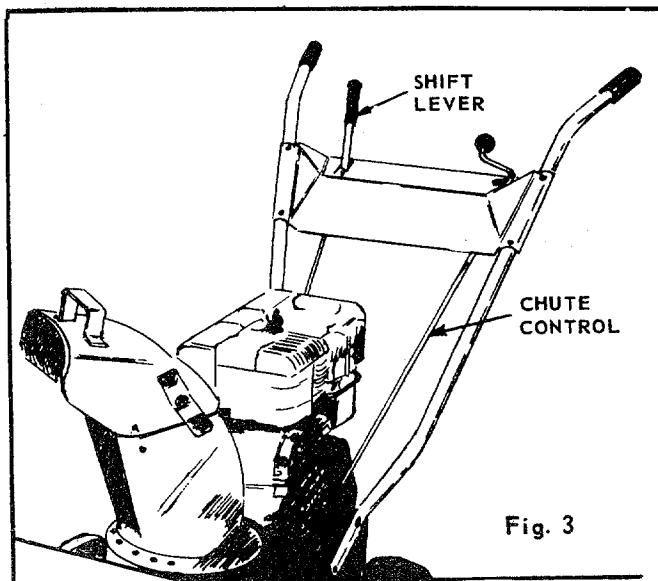

Fig. 3
To stop the snow thrower move the shift lever into neutral (N). Move this control only when the engine is operating. (See Figure 3)
**Chute Controls.** Release the lock and turn the crank to rotate the chute. Loosen the wing nut to adjust the deflector. (See Figure 3)